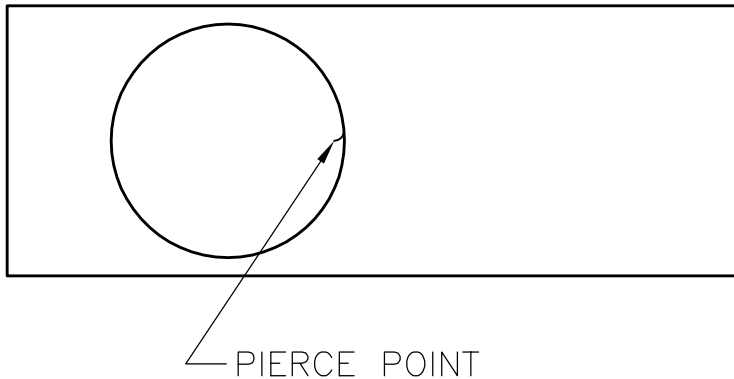

FIGURE 2
2. THE PIERCE POINT IS TO BE LOCATED AS FAR AWAY FROM THE EDGE OF THE PART AS PRACTICAL AND SHOULD BE INSIDE OF THE MATERIAL TO BE REMOVED. A LOCAL PROTRUBERANCE AT THE PIERCE OR FINISH OF THE CUT IS NOT TO EXCEED 0.063. SEE FIGURE 2.